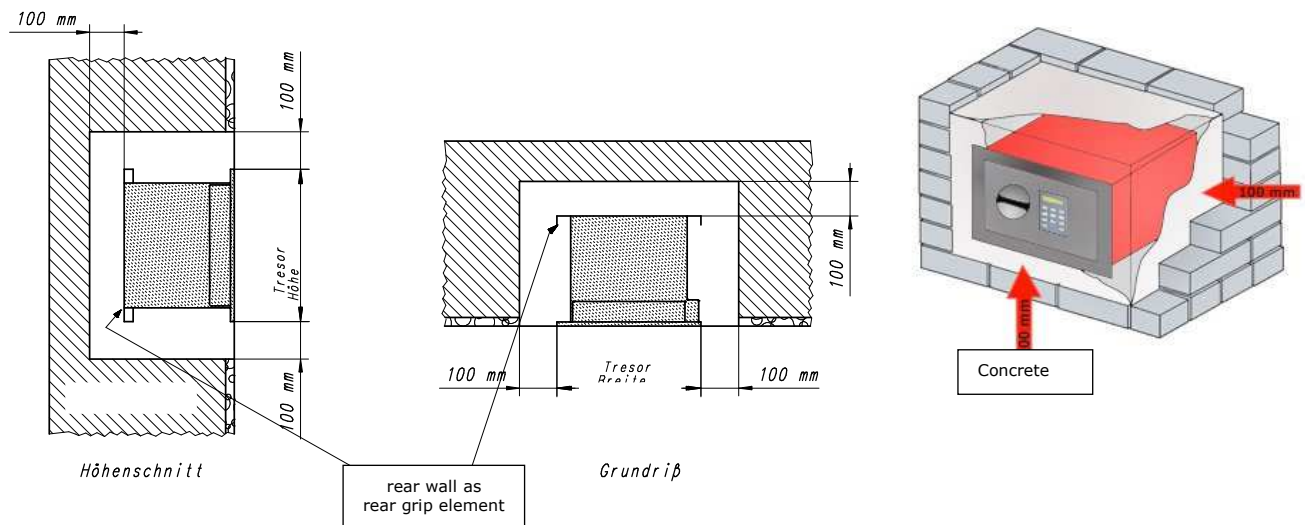

Figure 1: Minimum dimension of wall opening for installation of wall safe
- As the wall safe needs to be surrounded on all sides by a concrete layer at least 100 mm thick, the recess in the wall must be at least 100 mm larger all round than the external dimensions of the safe (see Figure 1).